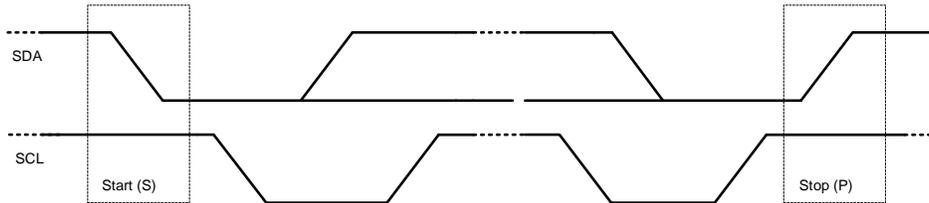

Figure 9: Start and Stop Commands
All the transactions begin with a start (S) command and stop (P) command via a stop command. A high to low transition on the SDA line while SCL is high defines a start command. A low to high transition on the SDA line when SCL is high defines a stop command (see Figure 9 on page 32).
(ACK) bit. Data is transferred first with the most significant bit (MSB) (see Figure 9 on page 32).